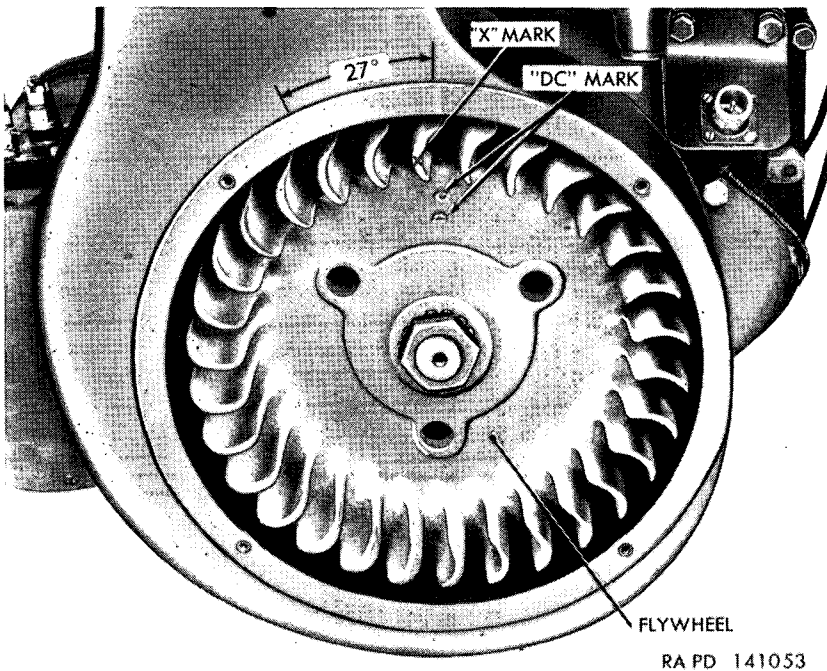

Figure 317. Auxiliary engine flywheel timing marks.
- (2) *Procedure.*
- (a) Remove the four screws which hold the air intake screen in place and remove screen (fig. 309). This will expose the timing marks on the flywheel shroud (fig. 317). Remove the spark plug from the No. 1 cylinder (nearest flywheel). Turn engine over slowly with the manual starter cable until the compression in this cylinder blows the air out of the spark plug hole.
- (b) The flywheel is marked with the letters "DC" near one of the air circulating vanes (fig. 317). This vane is identified further by an "X" cast on the face. When the air blows out of No. 1 spark plug hole (nearest flywheel), continue turning the crankshaft until the forward edge of the marked vane on the flywheel registers with the upper line stamped on the shroud. This is the line on the vertical center of the engine. Leave the flywheel in this position. There is another line stamped on the shroud 27° or about 2½ inches, to the left of the upper line. This